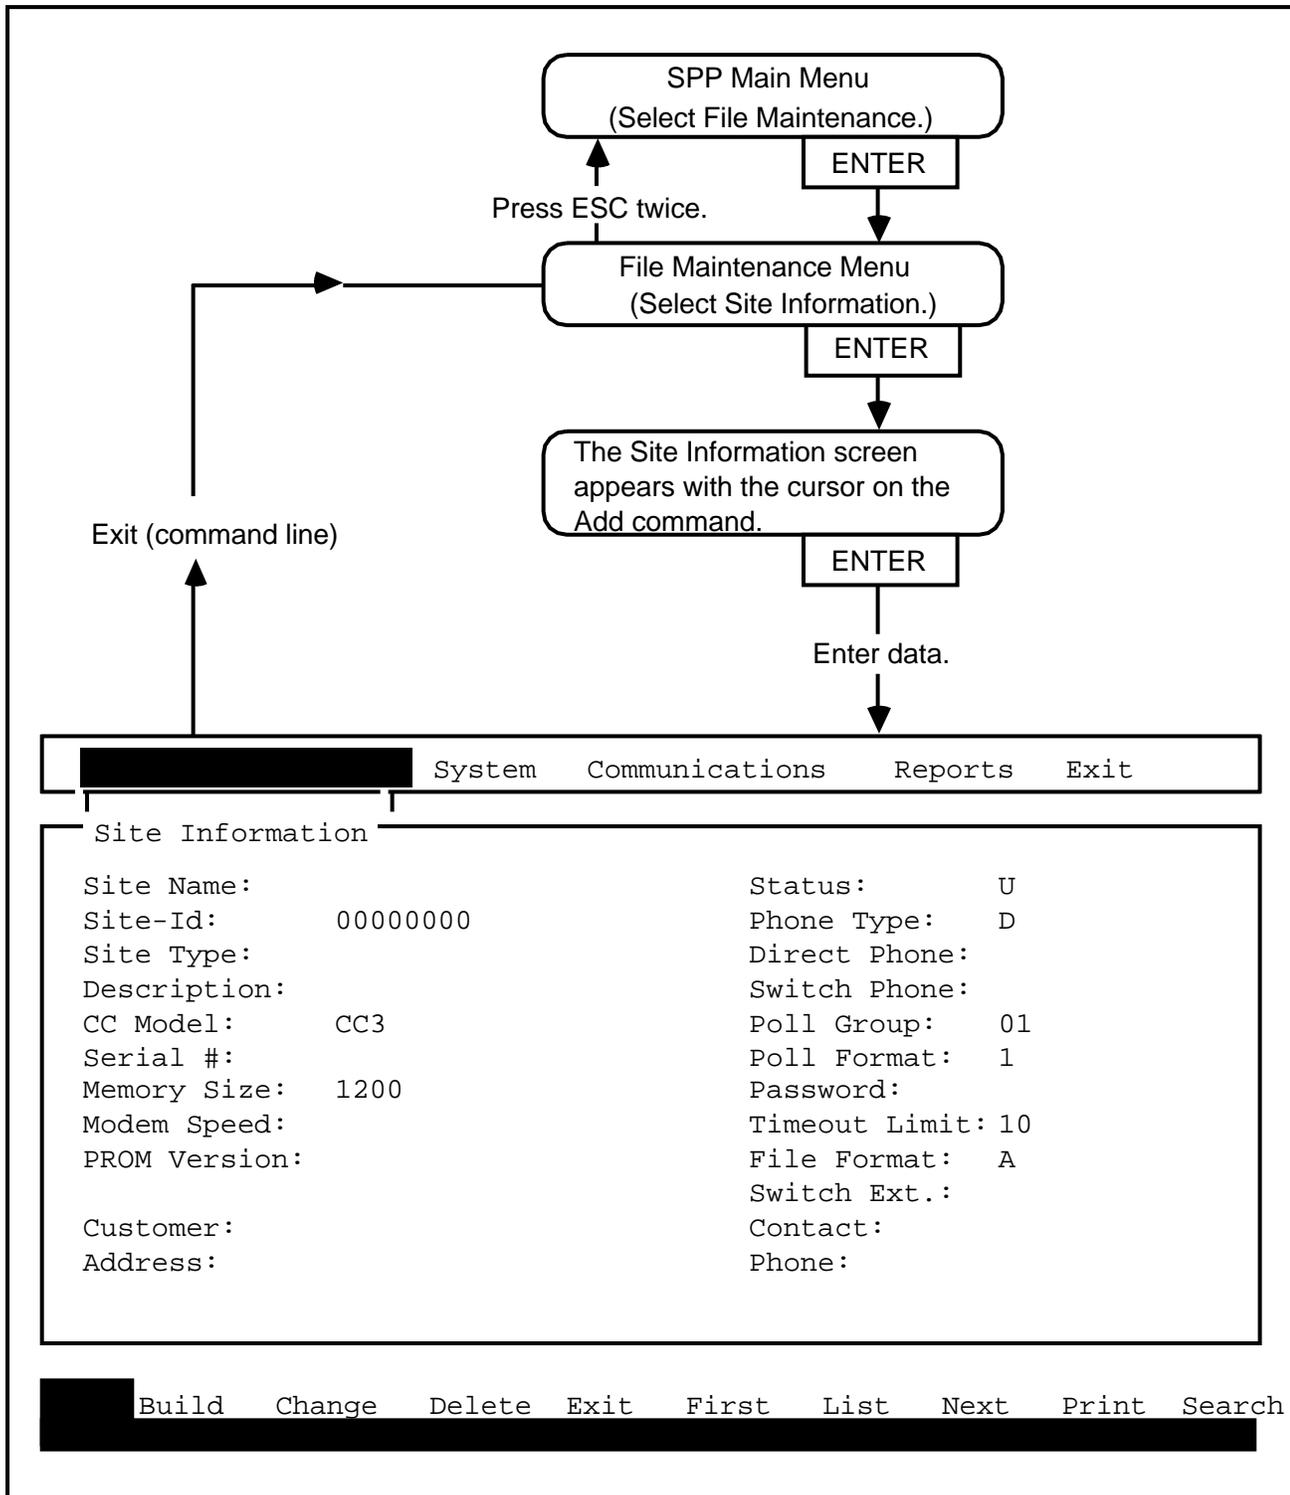

Fig. 3-2
3.04 Site Information Screen Commands. Table 3-B lists the functions of the commands that are available at the bottom of the Site Information screen (see Fig. 3-2).
3.05 To create a site information record (see Fig. 3-2), proceed as follows: